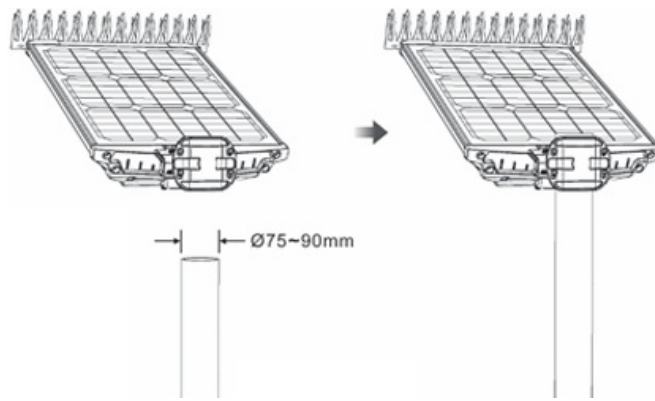

Figure 2
**(1) Install bracket.** Use M8 spring washers, flat washers and M8 screws to connect them, leave enough space to ensure the bracket can fit onto the pole.
**(2) Fit solar light onto pole** and make sure it is securely fastened with M8 screws. (See Figure 2). **The maximum torque for those M8 bolts is 14Nm.** Do not surpass this torque specification.